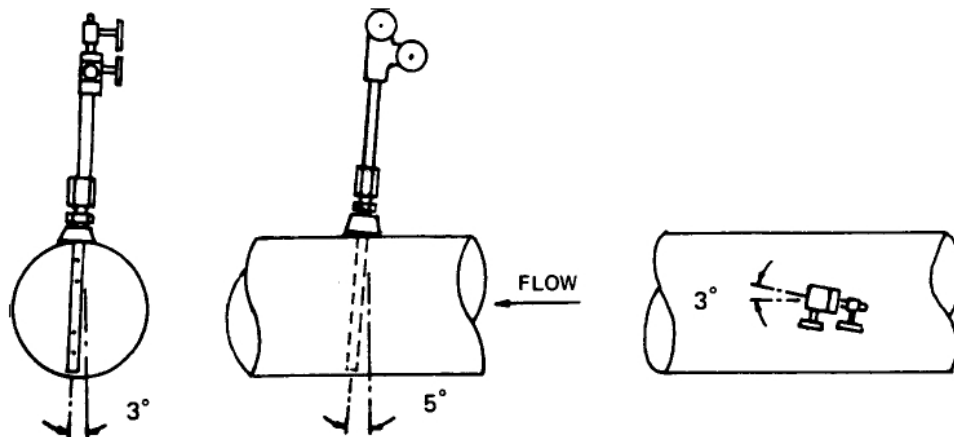

FIGURE 4.1 ACCUTUBE PROBE POSITIONING
- 4.1.5 Thread the packing gland fitting in place (compression type), and insert the probe into the pipe. Observe the position of the probe assuring that it is perpendicular within the tolerance shown in Figure 4.1. If adjustments are required, remove the probe and packing, and thread a pipe into the threaded fitting a few feet long. With the leverage of the pipe force the threaded fitting into the proper position.
- 4.3.7 Properly position the probe so that the High-pressure connection (side connection) is pointing upstream within the tolerances as shown in Figure 4.1.
- 4.4.4 Place the gasket on top of the weld neck flange and insert the Accutube to verify alignment of the probe and clearance. Alignment of the probe must be within the limits shown in Figure 4.1. The probe tip should clear the inside wall of the pipe by 1/16" on 12" and smaller line sizes, and 1/8" on larger line sizes (this clearance will occur within the support plug on Series 25D (see 4.4.5). Adjust the position of the Weld -O-Let and weld neck flange, if necessary, to provide proper orientation of the probe to the pipe. Align the probe flange boltholes with those on the weld neck flange and verify that the flow direction arrow stamped on the probe flange points in the proper direction.
4.5.26 Verify the alignment of the probe head with respect to the pipe line. The side pressure port should point directly upstream. Refer to Figure 4.1